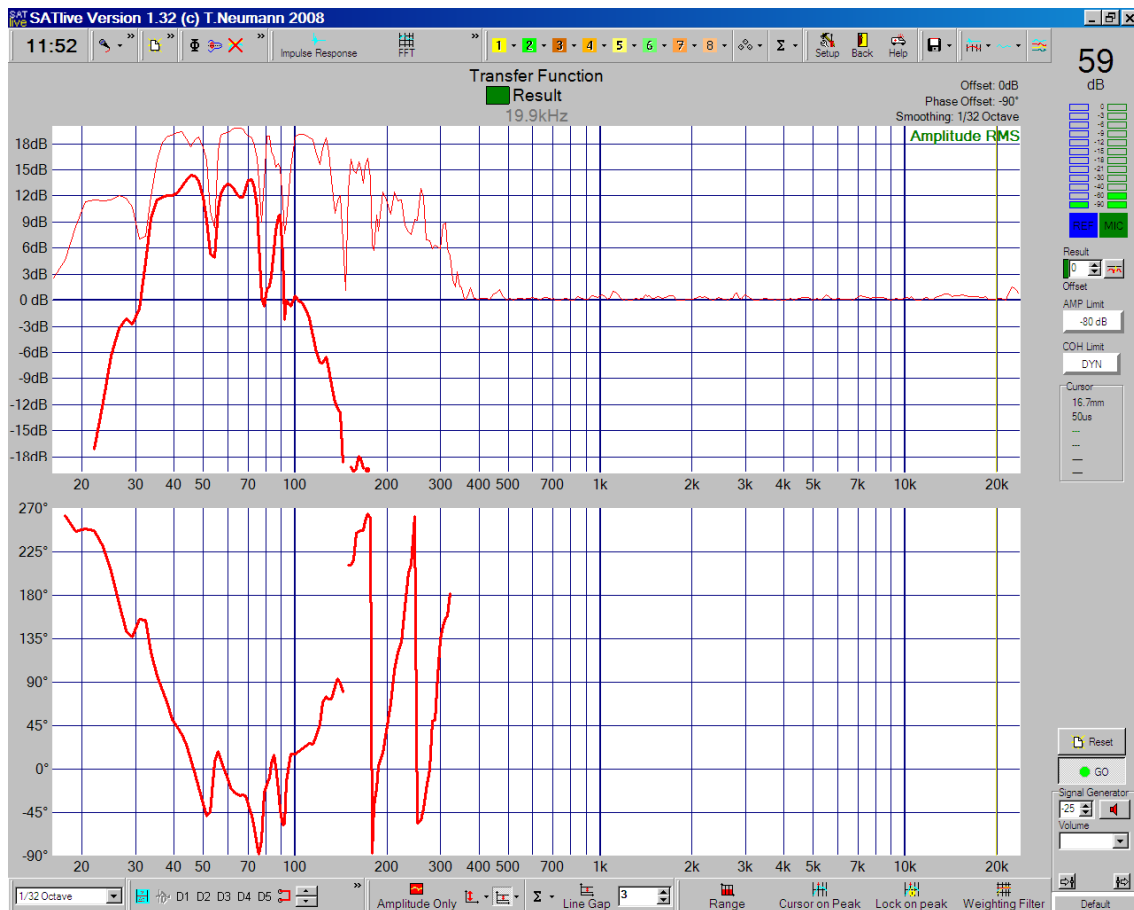

Fig. 25. Magnitude and phase curves for the subwoofers facing forward at the position where the cancellation is required.
3) Measure the magnitude frequency response for the enclosures facing forward before doing phase adjustments. This way we'll be able to compare the initial situation with the cardioid configuration. The measurement can be seen in Figure 25. The subwoofers' phase trace will always be shaped like an upper case U letter, or a smile.